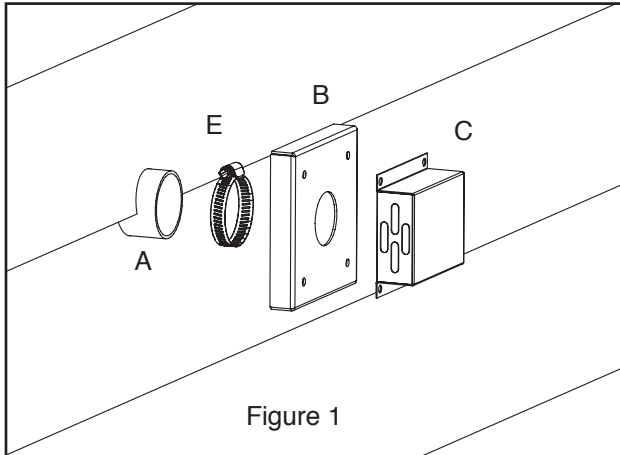
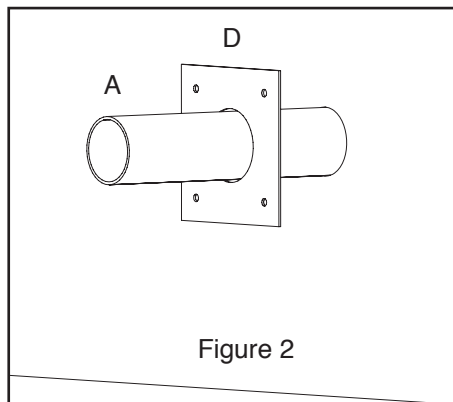

Figure 1
Figure 2
2. Insert the hose through the wall and attach the Outside Cover with one of the 2" hose clamps provided. See Figure 1.
4. Next, attach the Rodent Cover to the Outside Cover using four (4) of the #10 x 3/4 screws supplied.
5. On the inside of the home, slide the Inside Plate over the tube then attach to the wall with the four drywall anchors and screws provided. See Figure 2.